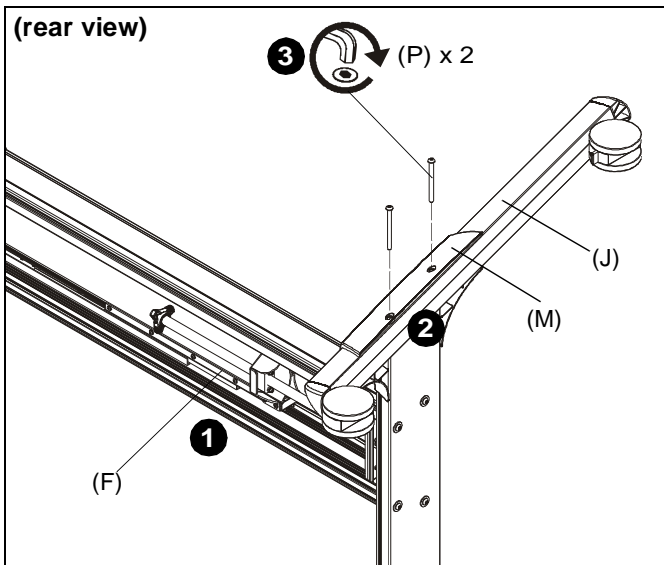

Figure 1
1. Carefully set column assembly (F) on its left side. (See Figure 1)
2. Place right transition cover (M) on right cart leg (J), lining up the holes on the cover with the holes on the leg and column assembly base. (See Figure 1)
3. Use two 5/16-18 x 3/4" button head cap screws (P) to secure leg (J) and cover (M) to column assembly (F). (See Figure 1)